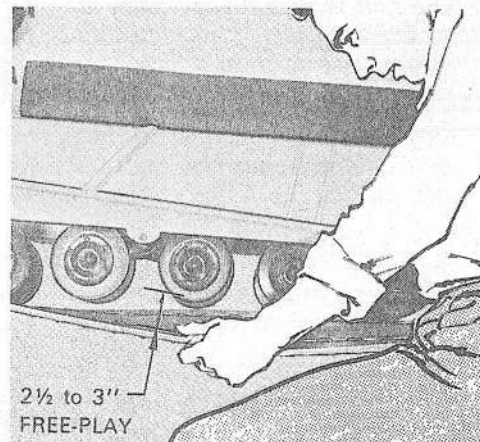

Figure 56
**TENSION:** At the middle section of the track(s), you should have from 2½" to 3" of free-play. For adjustment procedure, see Fig. 56.
TENSION: Lift the rear of the Ski-Doo and block the track(s) off the ground. Press down with your hand on the middle section of the track(s) to check for the proper required free-play (2½" to 3" between the track(s) and the frame). See page 34, Fig. 56.